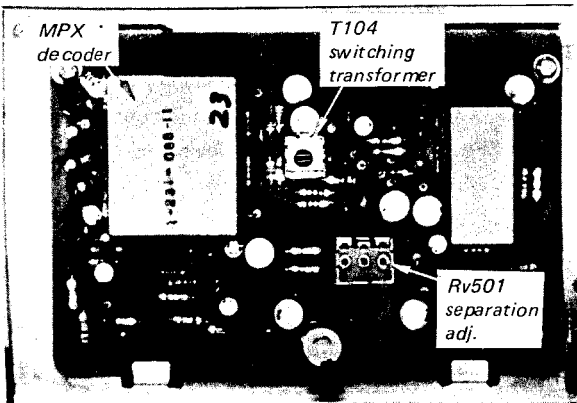

Fig. 3-9 Parts location
2. Precisely tune the set to the SSG's carrier frequency, then turn the top core of switching transformer T104, to obtain maximum output at the left channel. See Fig. 3-9. Note that this adjustment has a close relationship with stereo distortion.
5. The output-level to residual-level ratio represents the separation. Adjust separation control Rv501 (see Fig. 3-9) for minimum residual level. Check the right channel for separation. Usually, about an 8 to 9 dB difference in channel separation exists. Readjust Rv501 for minimum difference between left and right-channel separation. While doing this, remember that the output level also changes according to the setting of Rv501.